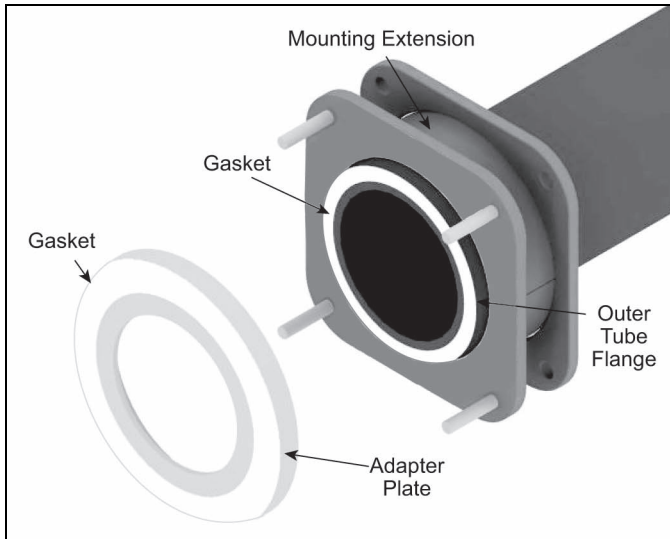

Figure 3.10
6. Place gasket against adapter plate. See figure 3.10.